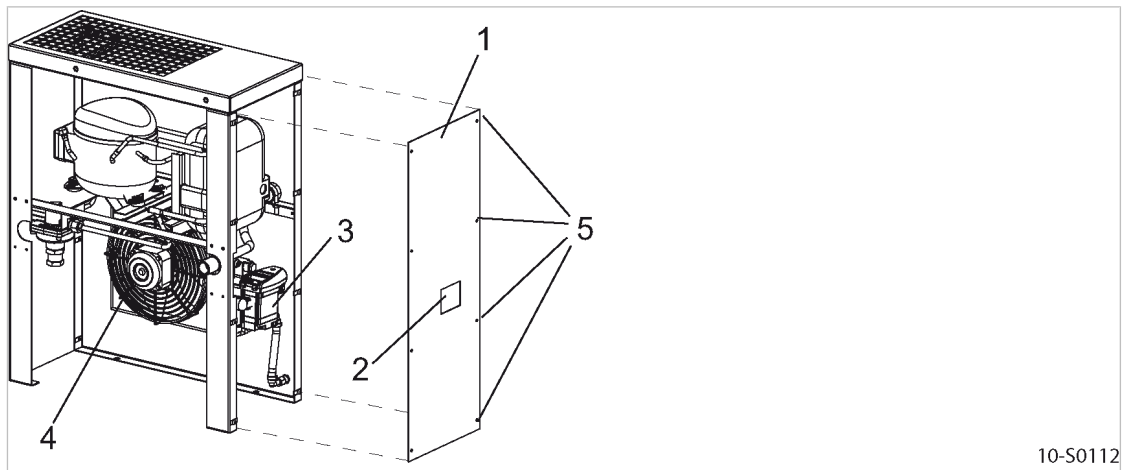

Fig. 37 Refrigeration dryer
The viewing window ② (Fig 37) can be carefully removed in order to press the «TEST» button.